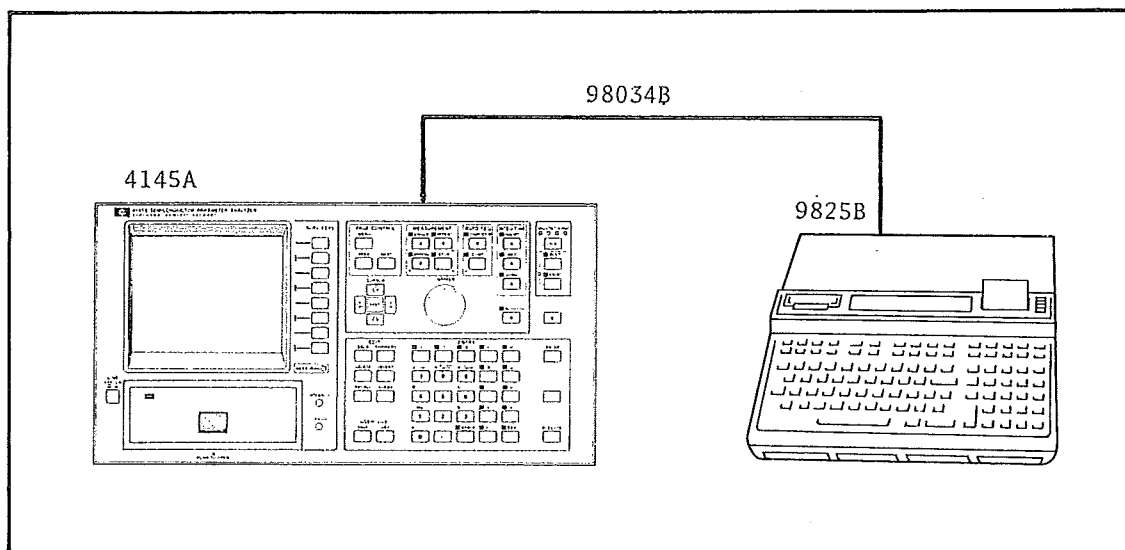

Figure 4-16. HP-IB Interface Test Setup.
2. Connect the 98034B between the 4145A and the 9825B as shown in Figure 4-16, and the I/O ROM's in the ROM slots.